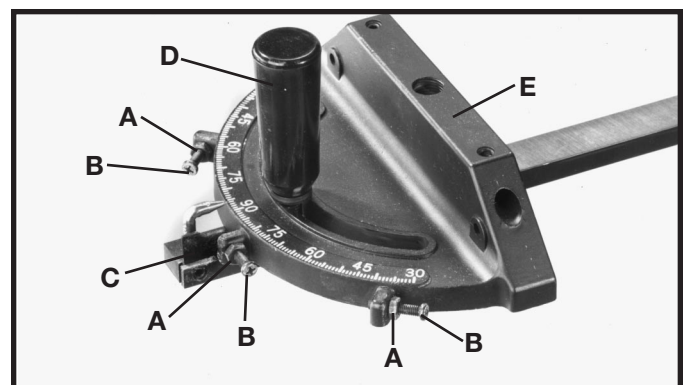

Fig. 49
2. To operate the miter gage, simply loosen lock handle (D) Fig. 49, and move the body of the miter gage (E) to the desired angle. The miter gage body will stop at 90 degrees and 45 degrees both right and left. To rotate the miter gage body past these points, the stop link (C) must be flipped out of the way.